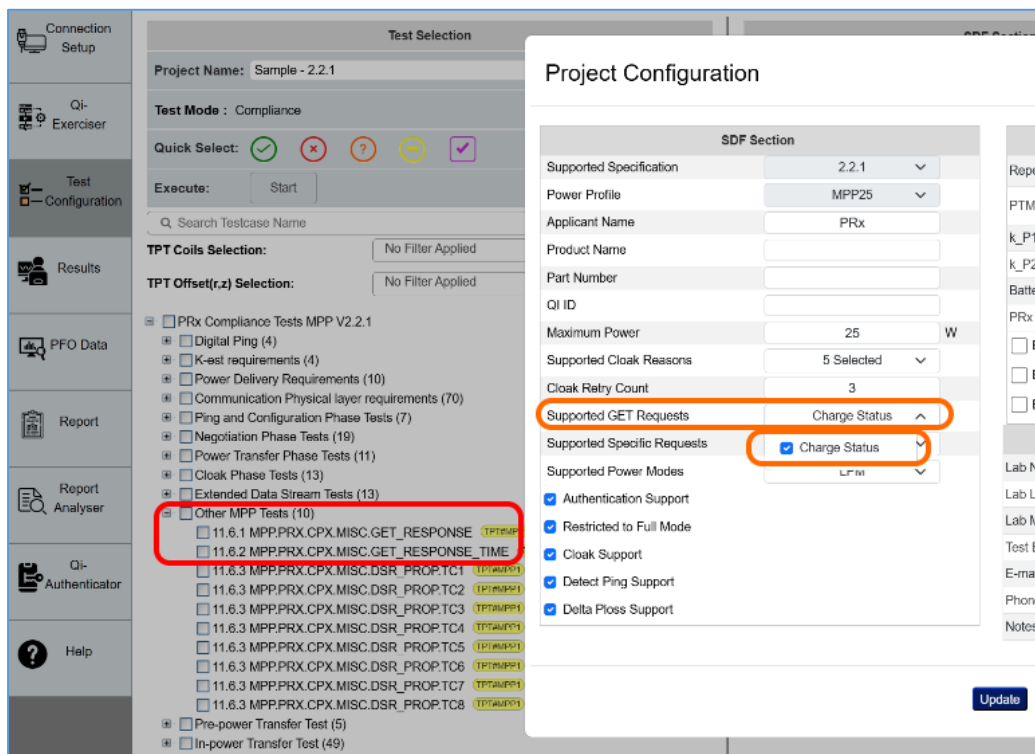

FIGURE 2.25: EXECUTE (0,0) POSITION TEST CASES - #6
6. Select the respective parameter checkboxes in the **Supported GET Requests** field based on the PRx DUT capabilities as shown in Figure 2.25 below.